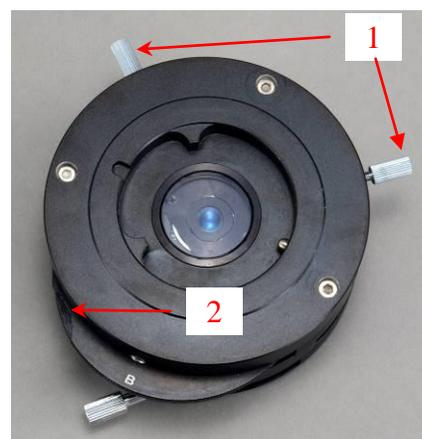

Fig.19
- 4) Turn the Bertrand lens switch dial (6) to the "B" position.
- 5) Turn the Bertrand lens centering screws (20) to center the Bertrand lens.
- 6) Adjust the dial 2 (see Fig.19) to focus the Bertrand lens.